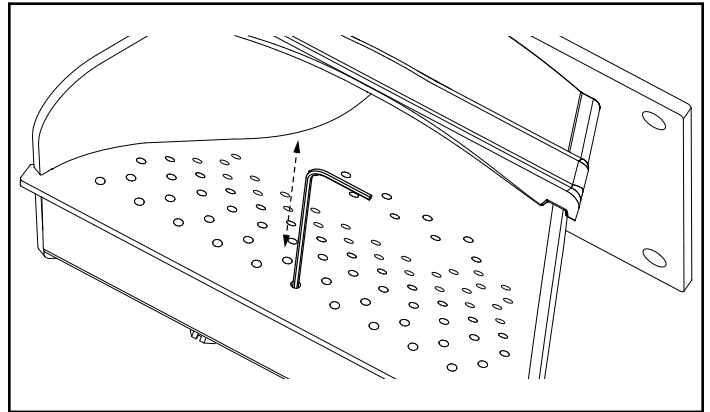

Figure 3.3
- Use the supplied allen wrench to remove any build-up that may have accumulated in the holes of the burn pot grate. Simply push the allen wrench down through each hole ensuring it is clear of any build-up paying attention not to damage the igniter element in the process. Figure 3.3.